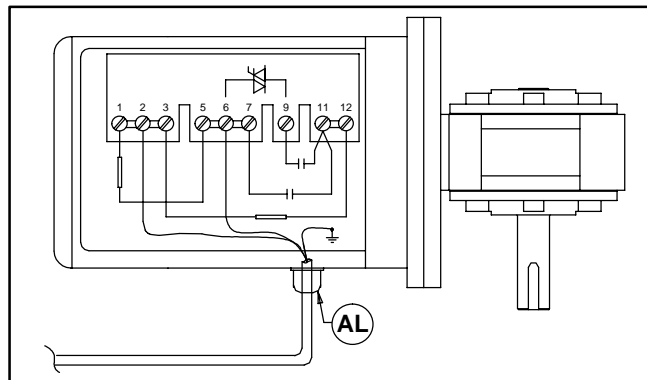

Figure 19
- b. Record wire colors on terminals 2, 6 and ground (\perp) (Figure 19). Loosen terminals 2, 6 and ground and remove wires.
- c. Loosen cord grip (AL of Figure 19) and remove cord.